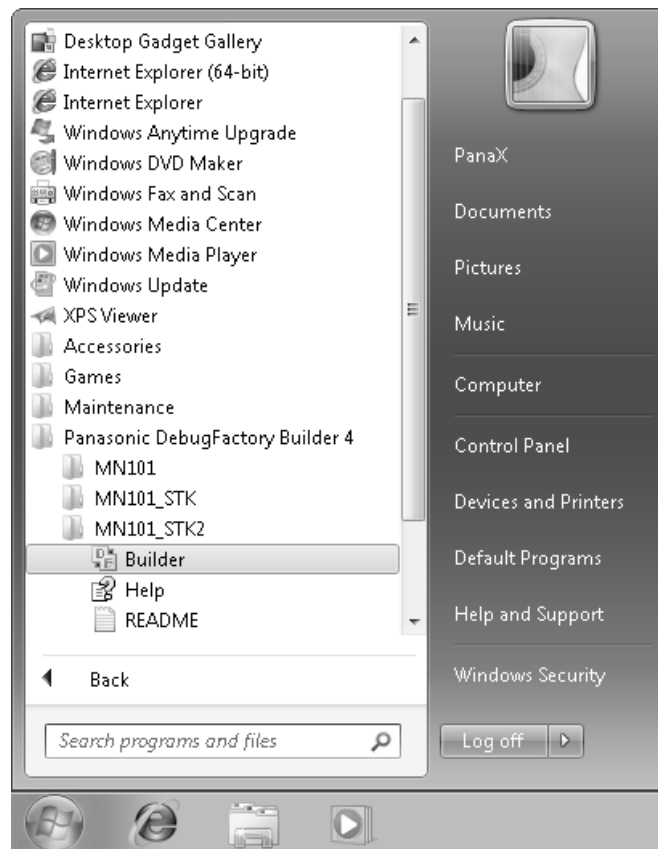
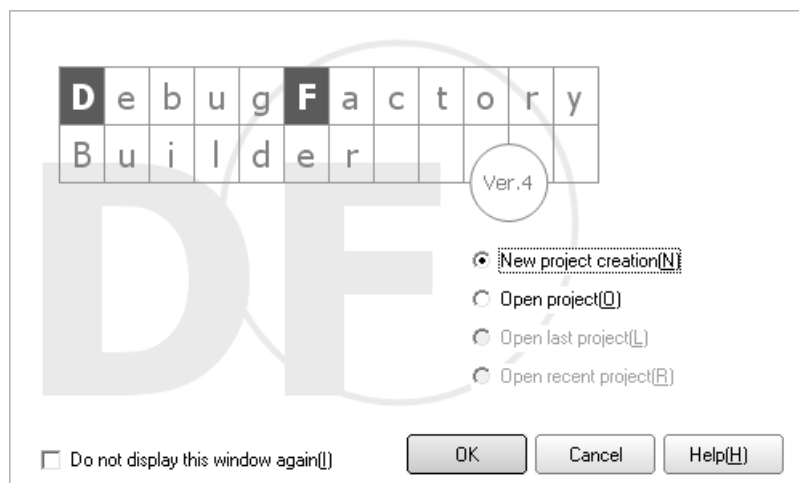
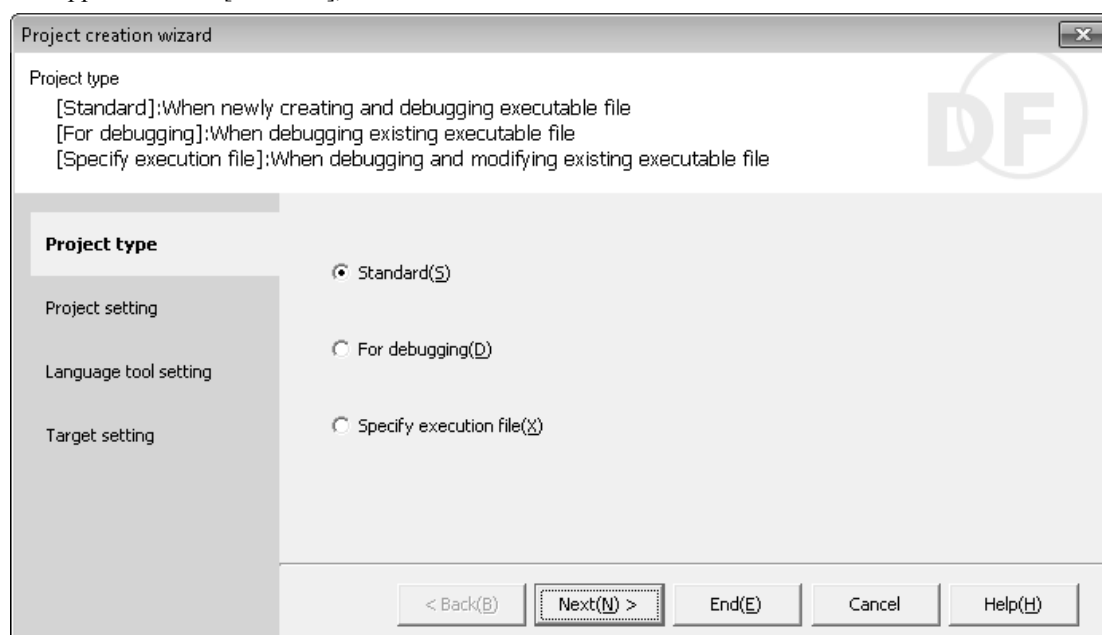

Figure 2.1.9 Registered [Panasonic DebugFactory Builder 4]-[MN101\_STK2] Group
Figure 2.5.1 Startup Window
Figure 2.5.2 Project creation wizard
9. After the installation is completed, [Panasonic DebugFactory Builder 4]-[MN101\_STK2] group is registered in [All Programs] on the menu [Start]. Figure 2.1.9 shows the shortcut just registered.
From the menu [Start], select [All Program]-[Panasonic DebugFactory Builder 4]-[MN101\_STK2], then click [Builder] contained in the [MN101\_STK2] group to start up the DebugFactory Builder. (See "Registered [Panasonic DebugFactory Builder 4]-[MN101\_STK2] Group" Figure 2.1.9(p.14).) If the software tools have been successfully installed, the startup window in Figure 2.5.1 appears.
Select [New project creation] and click <OK> in [Startup window] shown in Figure 2.5.1, and the dialog shown in Figure 2.5.2 appears. Select [Standard], and click <Next>.